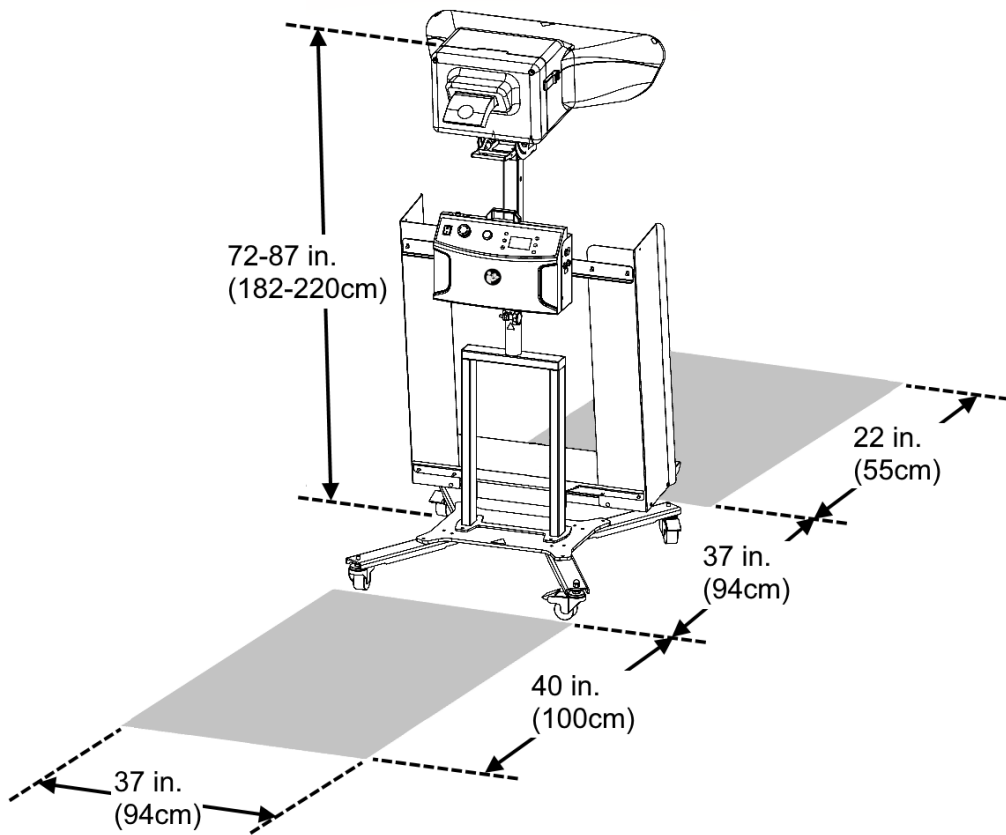

Figure 4 Floor Stand Set-Up
1. Turn the Rotational Positioning Knob three turns counterclockwise to loosen the **Dispenser Head** (refer to Figure 4).
3. Tighten the Rotational Positioning Knob by turning it clockwise (refer to Figure 4).